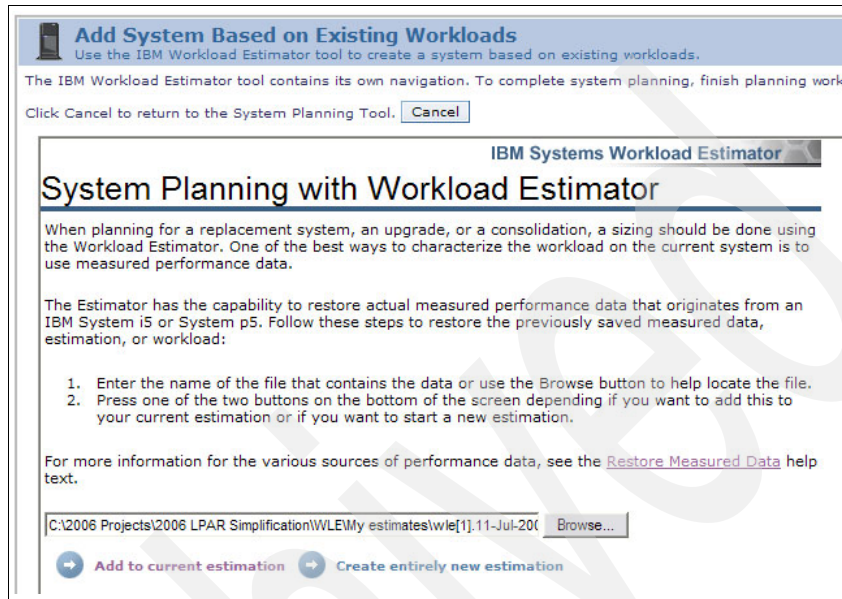

Figure B-28 Add WLE to to current estimate
4. The file you selected is now loaded into the Add System based on Existing Workloads panel. Click Add to current estimate or Create an entirely new estimate (Figure B-28).